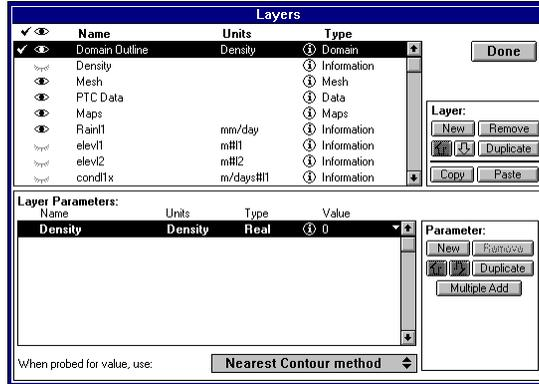

Figure 5: The layers window.
These variables are stored in Information layers, as explained above. If the value of a particular variable is constant over all the domain, then it is input through the “View | Layers” option in the Menu Bar. This will bring a window with a list of the layers already defined (upper subwindow) and with a list of the variables defined on each layer (lower subwindow). The window is shown in Fig. 5.
There are three methods in which the program assigns values to nodes once you have created a contour on an Information layer. They are shown in the Layers panel described above (Fig. 5). There, below the second subwindow (where variables in the highlighted layer are listed), at the bottom of the window, there is a scrollable line with the legend “When probed for value, use:”. The three methods to choose from are Nearest Contour method, Exact Contour method and Interpolation method. The first one, *Nearest*, sets the value of a variable at a node (or element) to that of the nearest contour. *Exact* sets the value to contours over the node or that contain it (in the case of closed contours), and the third one interpolates scattered
3. Enter the global values for the following variables in the Layers panel (this panel is shown in Fig. 5):